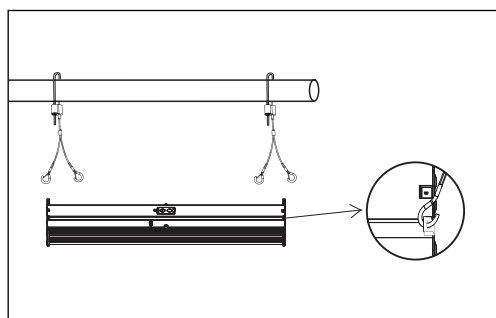

Figure 1
1. Hook the spring buckle on the suspension rope to the installation hole of the lamp. (Figure 1)